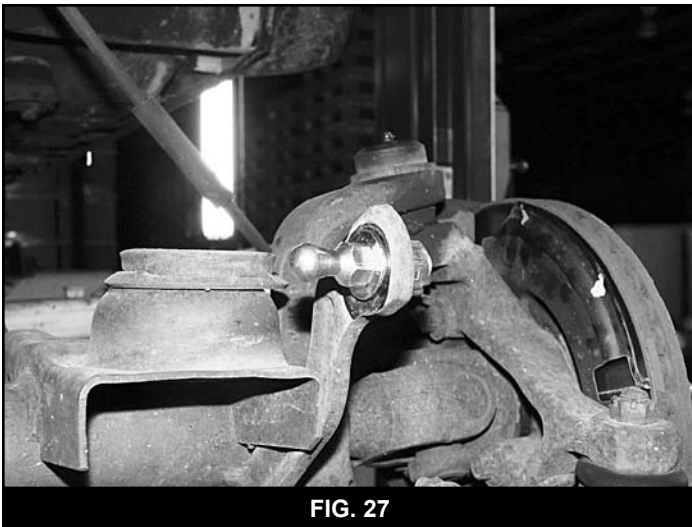

FIG. 27
69. Install the new lower ball stud (01302) to the OE sway bar link mount with a 1/2" nut and two 1/2" SAE washers (BP 718). The washers mount on each side of the OE mount (Fig 27). The ball mounts toward the inside of the vehicle. Torque stud to 60 ft-lbs.